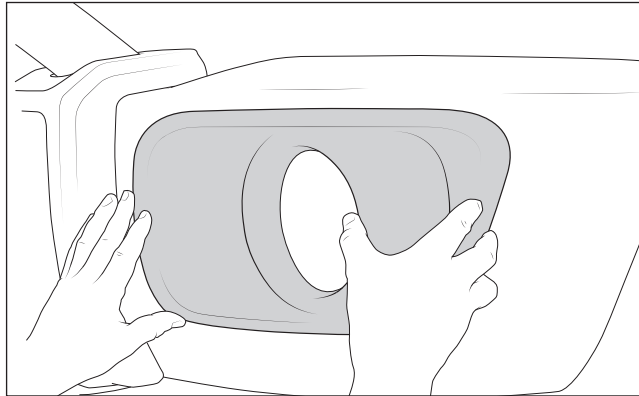

Figure 25
- Carefully position the bezels on the bumper and press firmly. Use several strips of painter's tape to hold the bezel in place until the RTV cures (fig. 25).